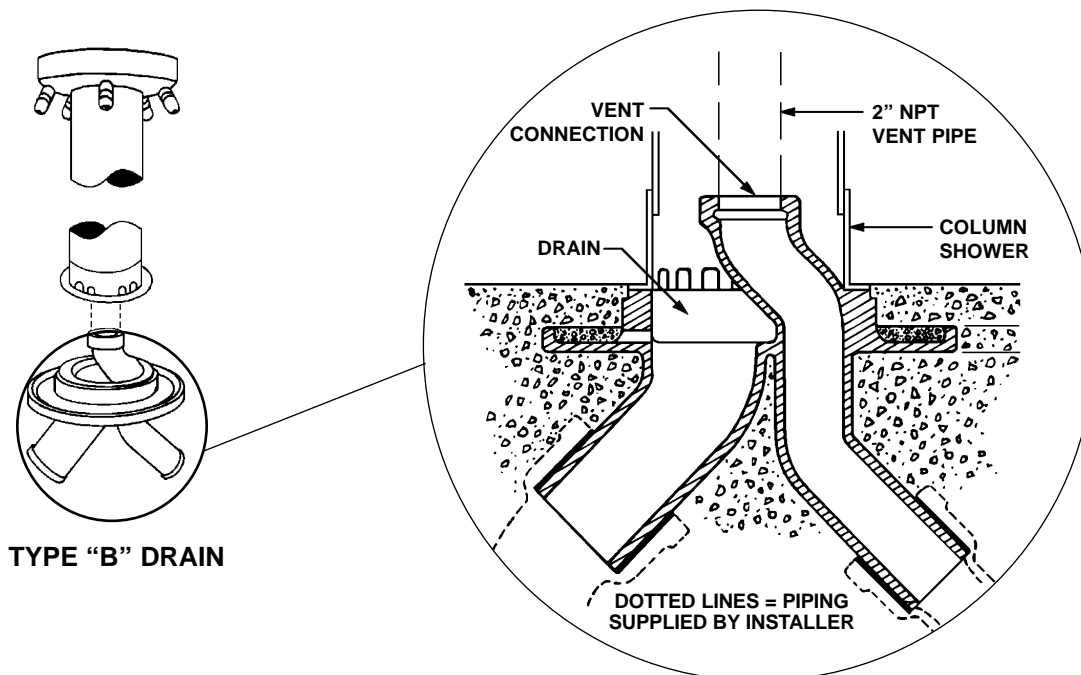

Figure 2b
4. Position the shower over the drain and screw the 2" NPT vent pipe into the vent connection (see Figure 2b).